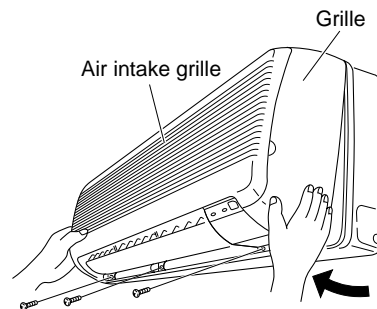
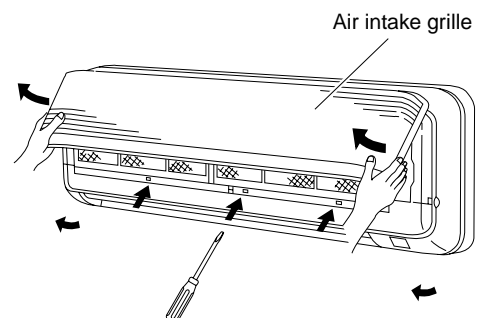

Fig. 14a
Fig. 14b
- (1) Set the 2 flaps in the horizontal position.
- (2) Unscrew the 3 screws. (Fig. 14a)
- (3) Remove the grille.
- (a) Hold both corners of the air intake grille, then pull out and up to open. (Fig. 14b)
- (b) Use a standard screwdriver to push up the 3 tabs to remove the grille. (Fig. 14b)
- (c) Pull the lower part of the grille toward you to remove. (Fig. 14a)